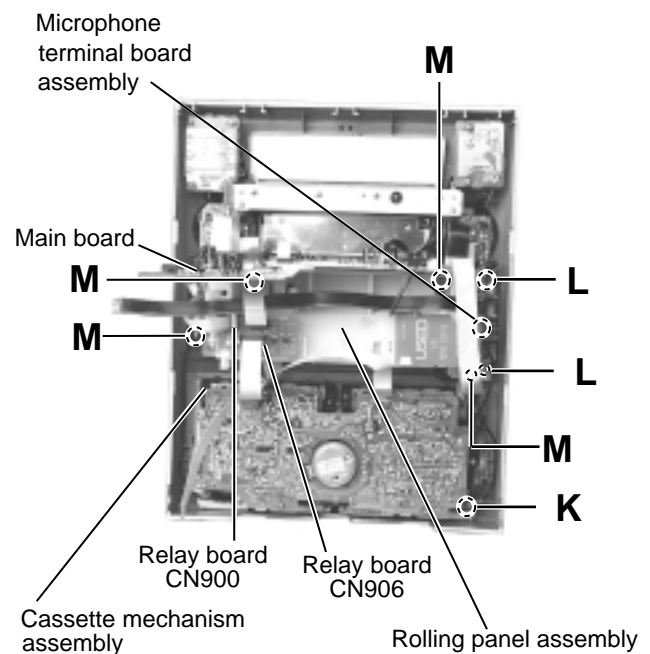

Fig.12
■ Removing the rolling panel assembly (See Fig.12 and 13)